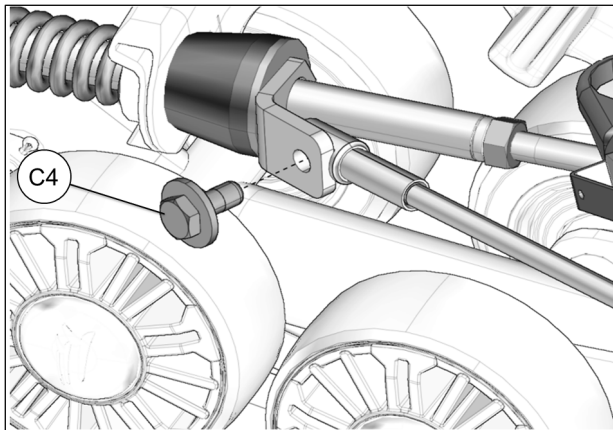

Fig. 21
13. Reverse steering wheel a little to be able to bolt support plate and cable together. Tighten provided bolt (C4) to 35 N•m [24 lb•ft]. See Fig. 21. Repeat steps on right side.